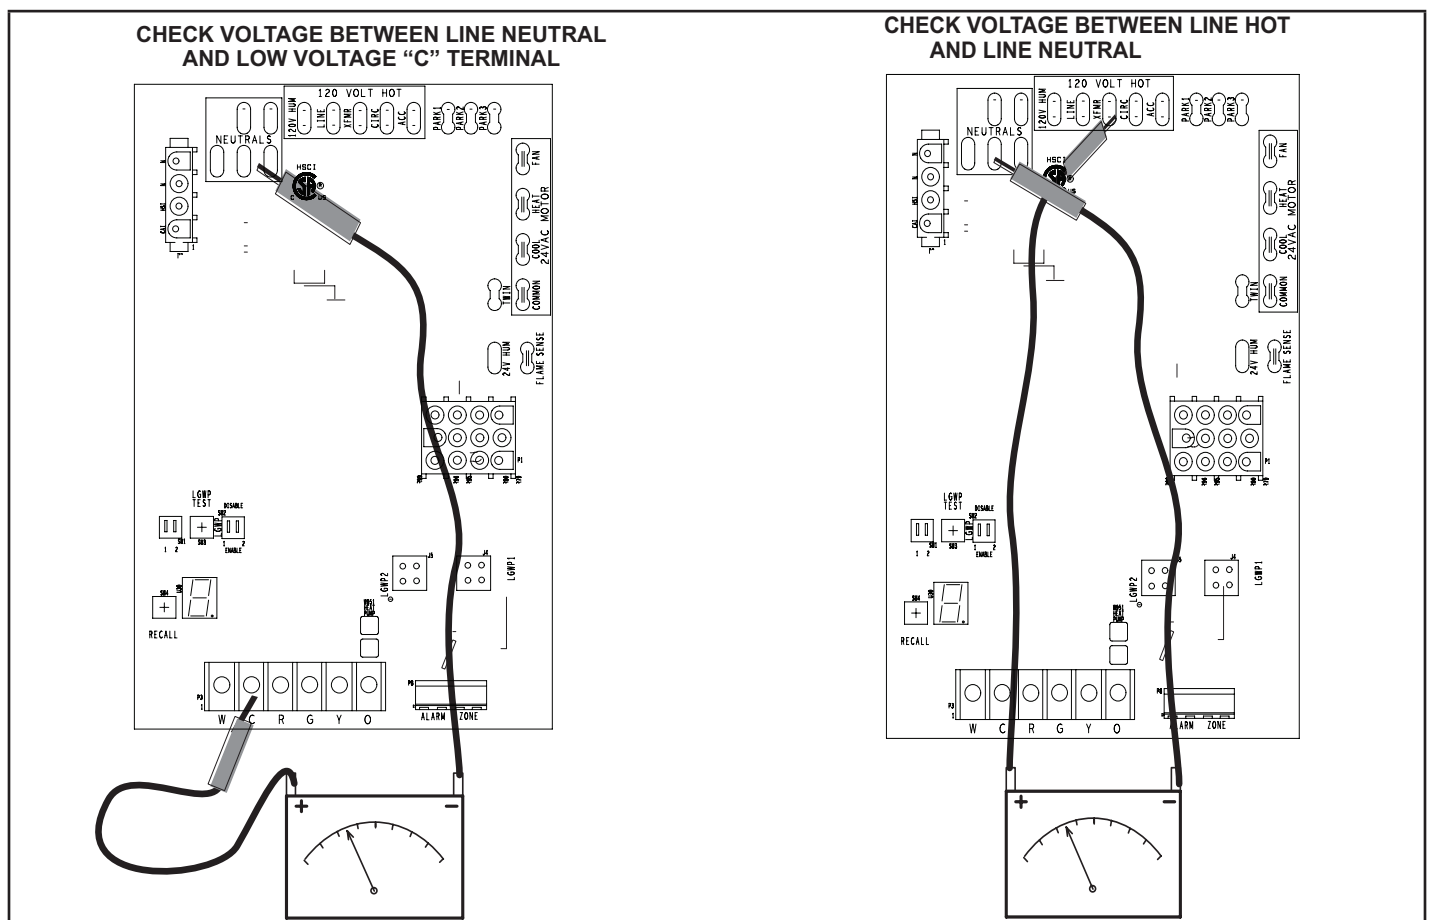

FIGURE 60
- 1 - Measure the AC voltage between Line Neutral (spade terminals) and "C" terminal (low voltage terminal block) on the integrated control. See FIGURE 60. A wide variation in the voltage between Line Neutral and "C" as a function of load indicates a poor or partial ground. Compare the readings to the table below. If the readings exceed the maximum shown in TABLE 21, make repairs before operating the furnace.
- 2 - In addition, measure the AC voltage from Line Hot to Line Neutral (spade terminals) on the integrated control. See FIGURE 60. This voltage should be in the range of 97 to 132 Vac.